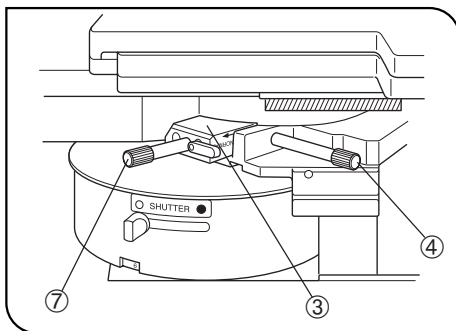

Fig. 62
6. Slide the prism movement knob ⑦ of the DIC slider in the clockwise direction around the axis until, the knob is stopped. A black interference stripe then a rainbow-colored interference stripe will be observed. Here, stop the knob at the position with which the black interference stripe can be seen. (Figs. 62 & 67)